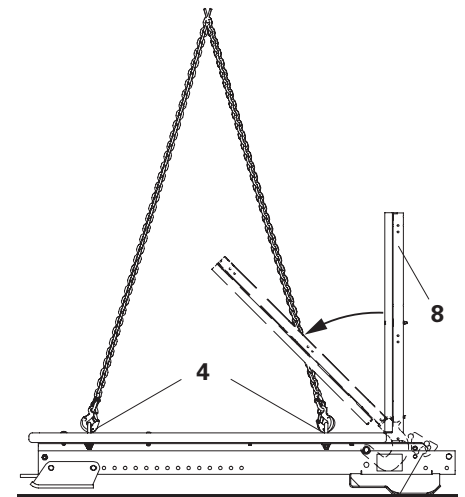

Fig. A2.06
2. Pull out pins (11.1) from the horizontal member (1.1) and remove strut. Lower platform down to the ground. The safety pawl (7) engages automatically. (Fig. A2.06)